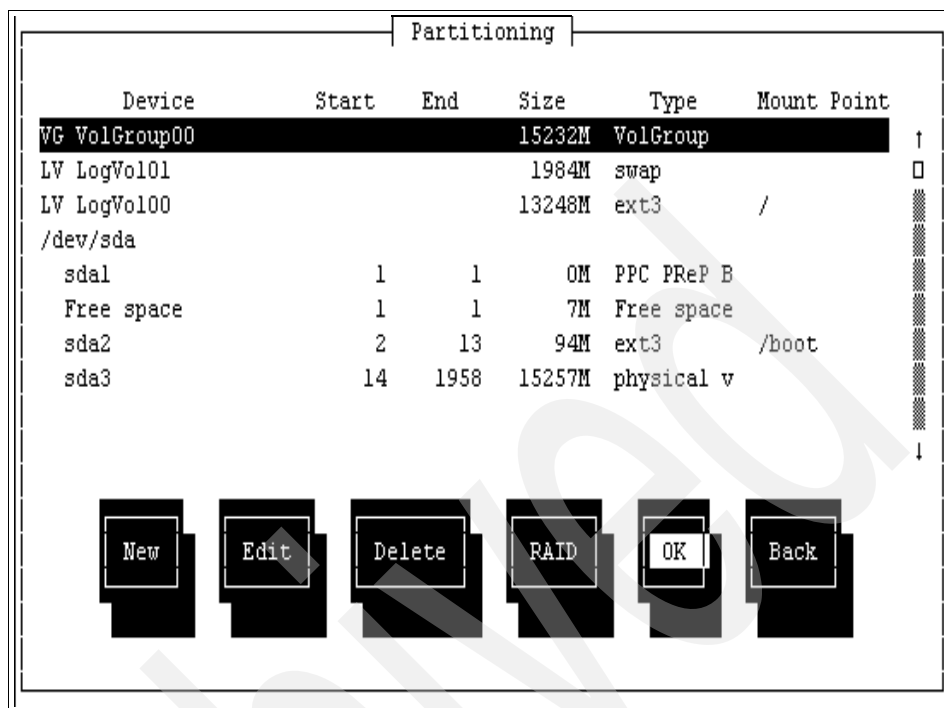

Figure 8-17 Review Partitioning panel
14. Review the allocated size for swap, ext3 file system, and /boot, as shown in Figure 8-17 on page 342. Press **OK** to confirm.